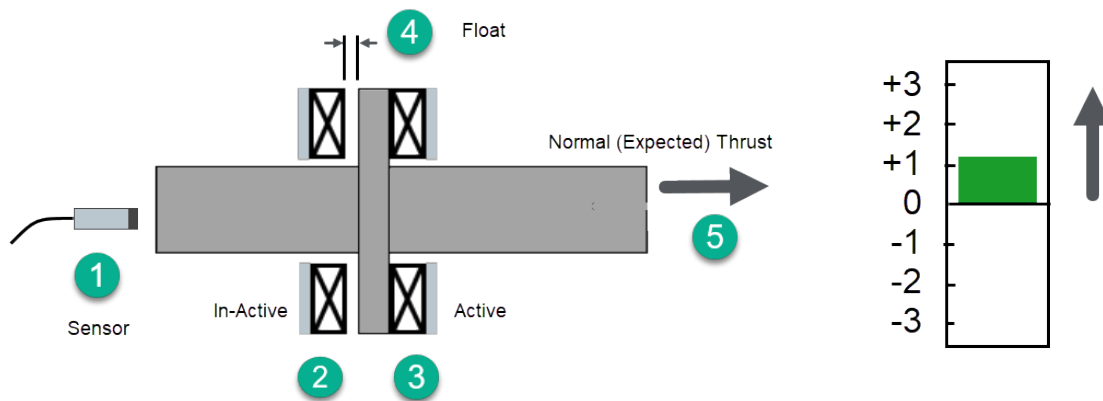

Figure 147: Axial Position
The setting “Upscale Direction” specifies the normal (or expected) thrust direction (5). In **Figure 147** the setting would be Upscale Direction = “Away from probe”.